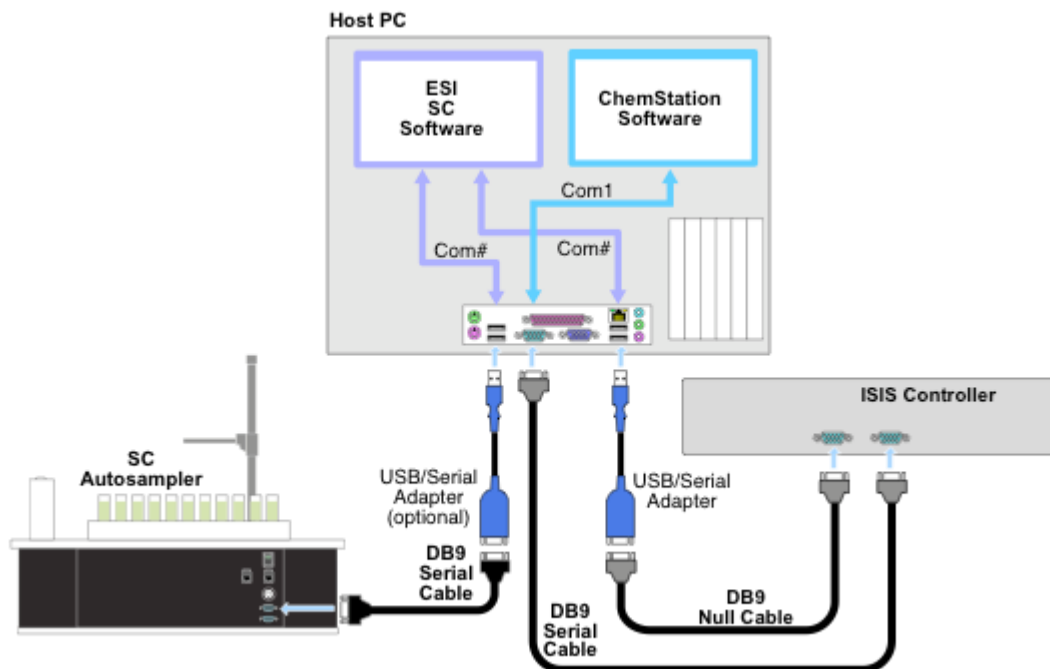

Figure 5: Connection option for ChemStation w/ISIS & ESI SC with SC autosampler.
- 2) Determine the type of connection to be used. If the ISIS component is present, the second connection option will be required. See Figure 5.
“Type C”: The second diagram Figure 5, shows a system that includes the ISIS controller. One RS-232 port is used by the ESI SC software to redirect the communication back to the host computer and control the SC Autosampler.